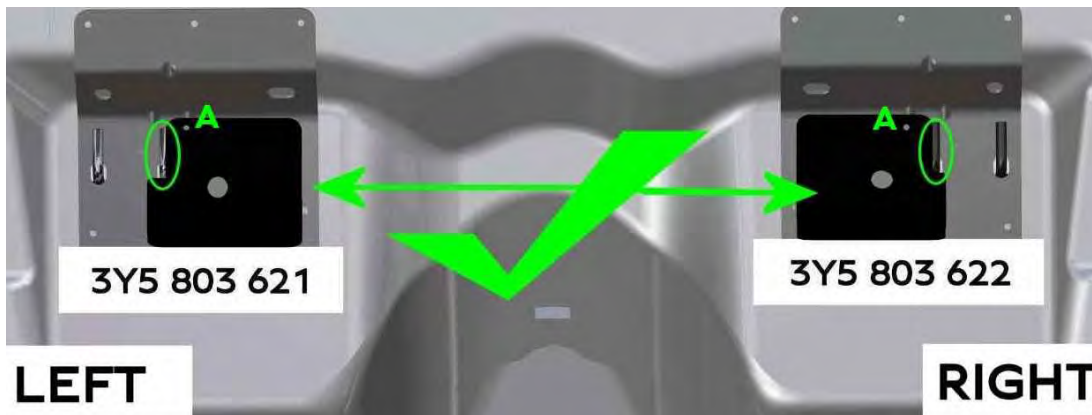

Figure 27
- Referring to Figure 27 - Ensure the plates are positioned exactly as shown, the isofix welds (Circled) should be used to locate and position the plates